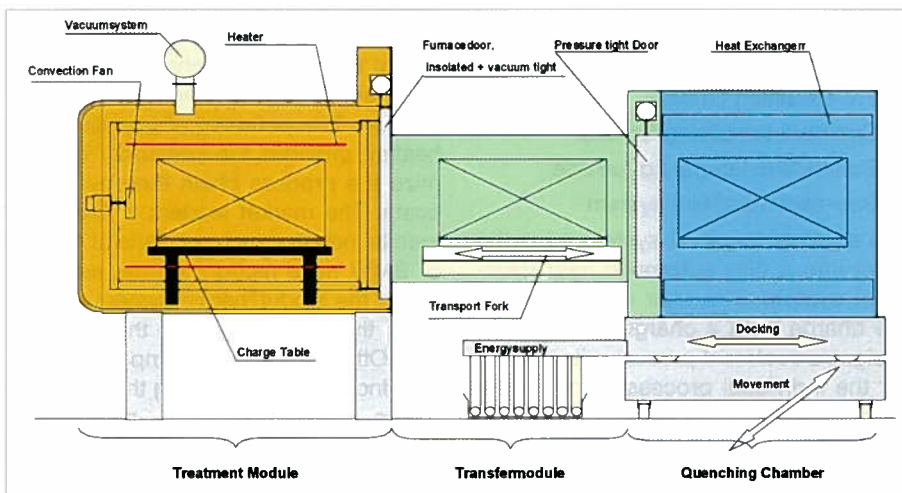

Fig. 2: Transport scheme of linked multi-chamber furnace system modultherm
ALD took special care in selecting a transport system which transports the charge from loading position into the treatment chamber (TC), resp. from the TC into the quenching chamber (Fig. 2). A fork lift system, readily available in the market, which is used for shelf systems for example, was chosen. Due to the relatively high load temperature an oversized transport fork considering the charge weight, was selected. Subsequently, a basic version for a charge weight of 500 kg and an option of up to 1000 kg was specified. A special advantage of this design is that neither the cooling water lines nor limit switches or other drives are installed in the treatment chambers. The drives and suitable drive shafts are positioned outside of the chambers. Only gear wheel/rack and pinion drive are positioned within the chamber.